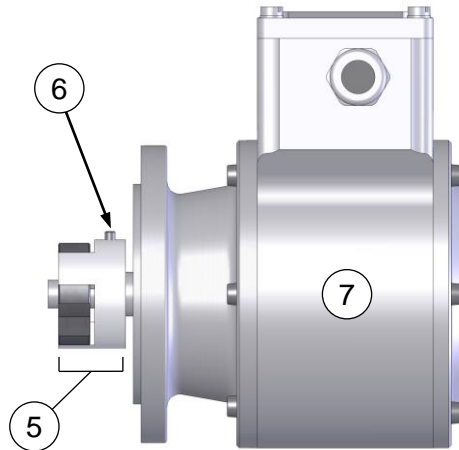

Fig. 4
Overspeed system design types B5/B14 and B35/B14 have a second shaft extension with integrated coupling half (1) and a B14 type flange (2) on the non-drive end, onto which it is possible to fit an additional device with a B5 flange, for example an incremental encoder, absolute shaft encoder or an overspeed system. A second coupling half with elastomer ring (5, Figure 4), which is available as an accessory, is required to fit an additional device.